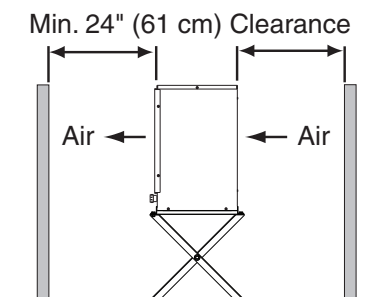

Fig. 9
- A dry and well ventilated area with 24" (61 cm) clearance at front and rear for proper air circulation and ease of maintenance and/or service should they be required. See Fig. 9.